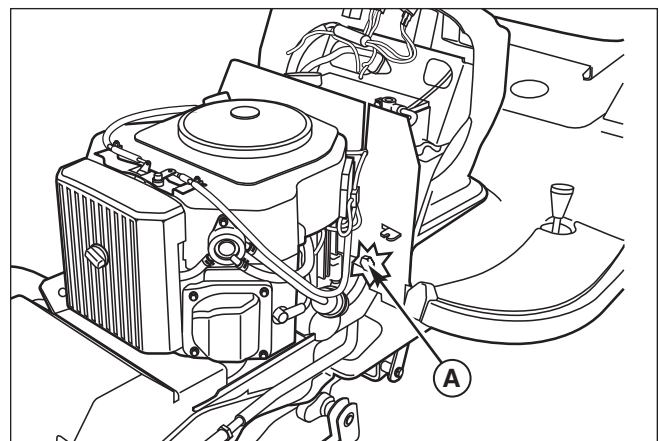

Figure 2. Manual Lift Adjustment Bolt
2. Loosen the manual lift adjustment bolt (A, Figure 2) until the bolt can be slid out of the groove in the bulkhead.
8. Reinstall the manual lift adjustment bolt (A, Figure 2) in the bulkhead.